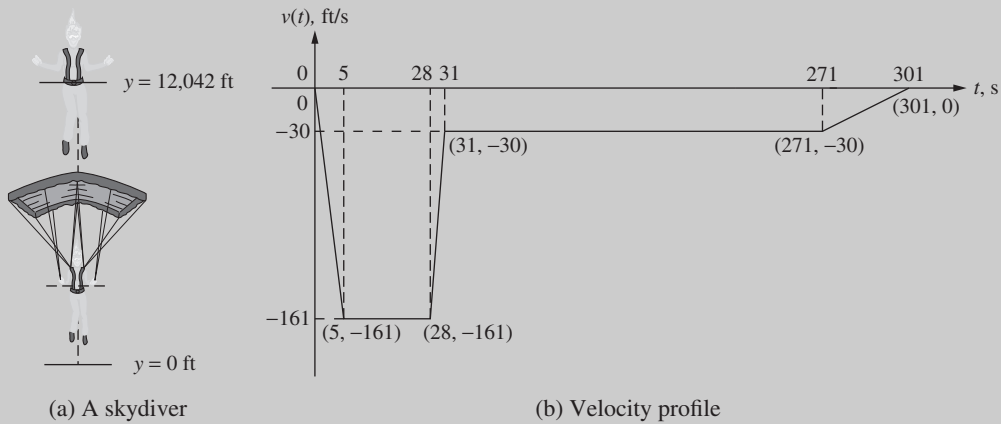

Figure 8.41 Velocity profile of the skydiver jumping from a height of 12,042 ft.
The velocity of a skydiver jumping from a height of 12,042 ft is shown in Fig. 8.41.
- Find the equation of the velocity $v(t)$ for the five time intervals shown in Fig. 8.41.